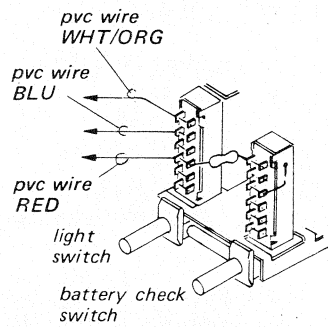

Fig. 2-21
5. Unsolder the three wires on the light switch shown in Fig. 2-21.